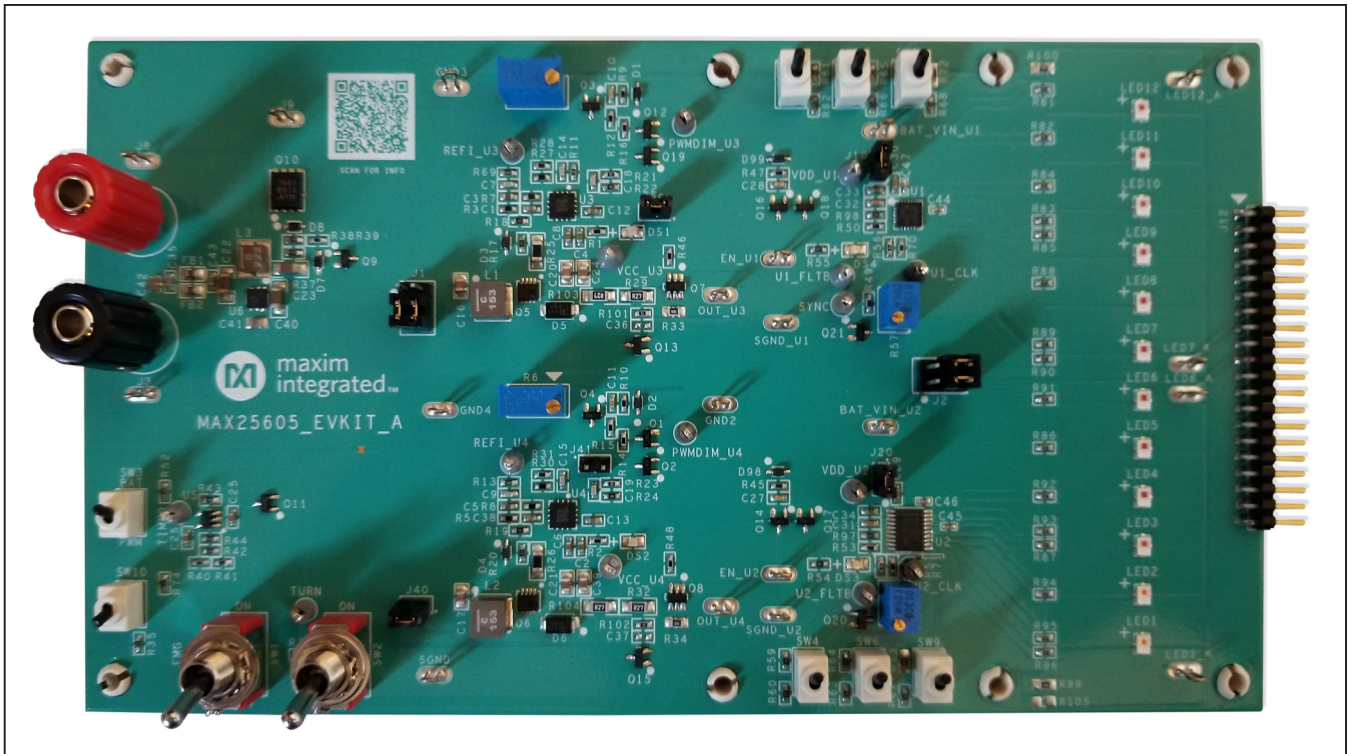

Figure 1. MAX25605EVKIT#
- 1) Verify that all jumpers and switches are in their default positions, as shown in Figure 1.